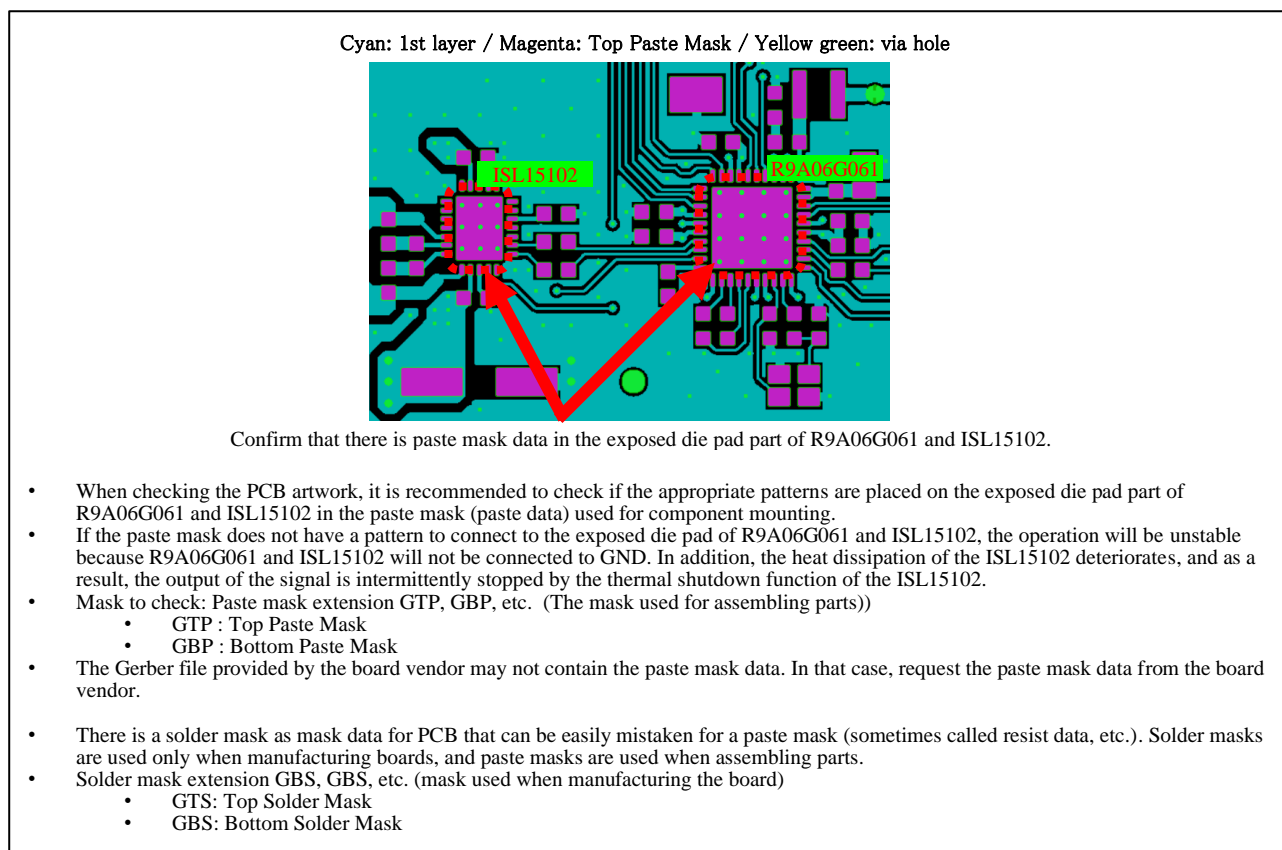

Figure 5-6 Example of checking the paste mask (paste data) used for component mounting
- When checking PCB artwork, in the paste mask (paste data) used for component mounting, it is recommended to check if the appropriate pattern is placed on the exposed die pad part of R9A06G061 and ISL15102. (See Figure 5-6 for details.)